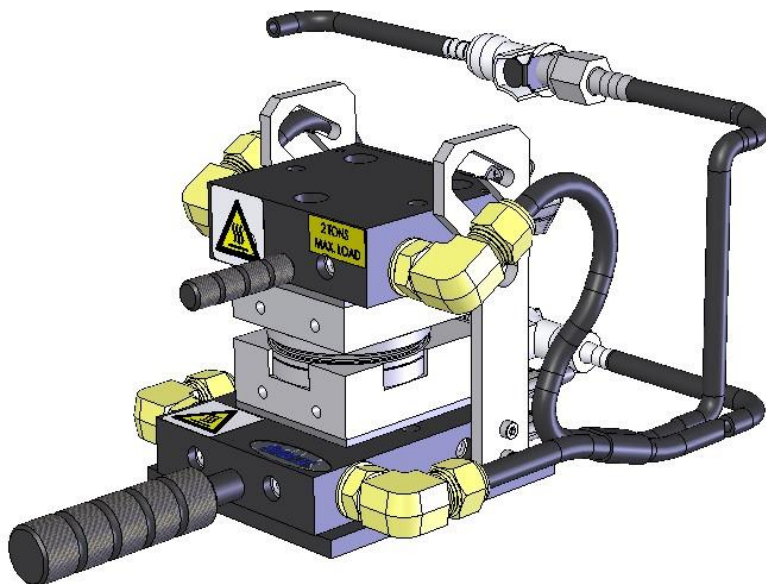
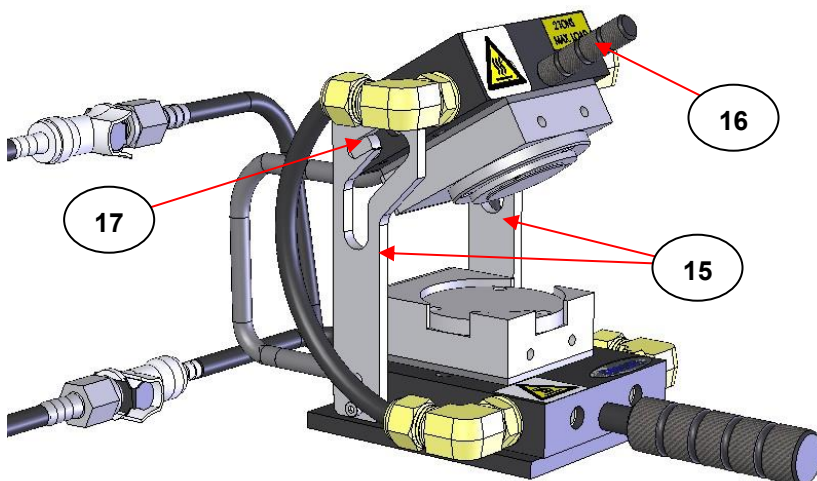

Fig 6. High Temperature Film Maker Accessory Ready for Installation into the Press (Sampling Position)
Fig 13. Loading Position of the High Temperature Film Maker Accessory (Shown Outside of Press for Clarity)
After removal of the protective films from the polished pressing surfaces (13) and (14), return the Top Half Assembly of the Accessory back to the **Sampling Position**, such that it is resting on top of the Lower Half Assembly (lower cooling block (3) and heated pressing surface assembly (5)). (See Fig 6.)
To accept a sample cup with sample, the Top Half Assembly of the High Temperature Film Maker Accessory should be re-positioned from the **Sampling Position** (See Fig 6.) to the **Loading Position** (See Fig 13.) The Top Half Assembly is moved by use of the lifting handle (16) into the top resting slots (17) of both side support brackets (15) as shown in Fig 13, for the **Loading Position**.